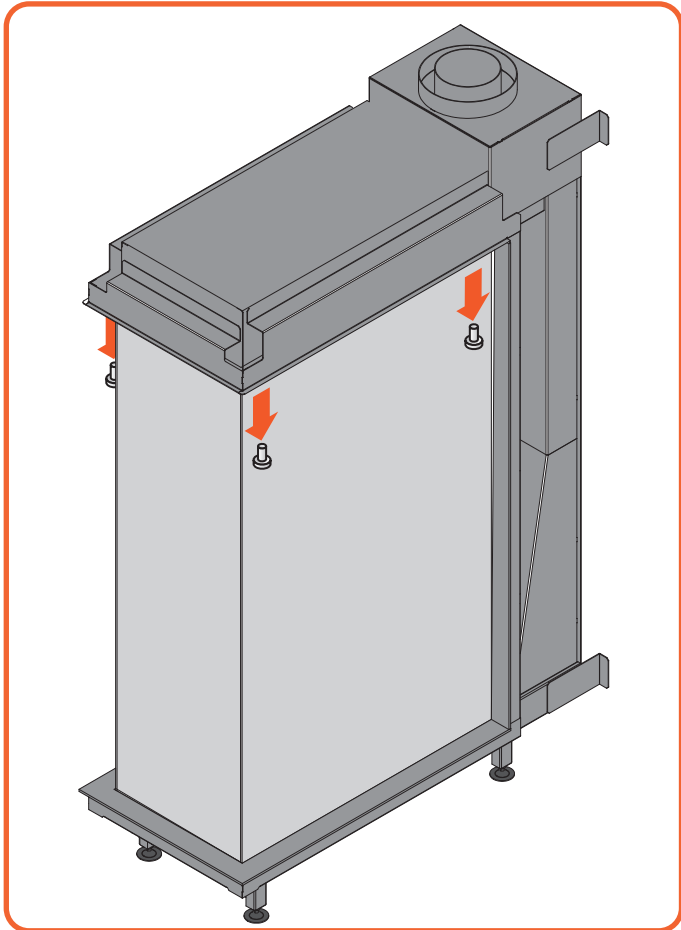
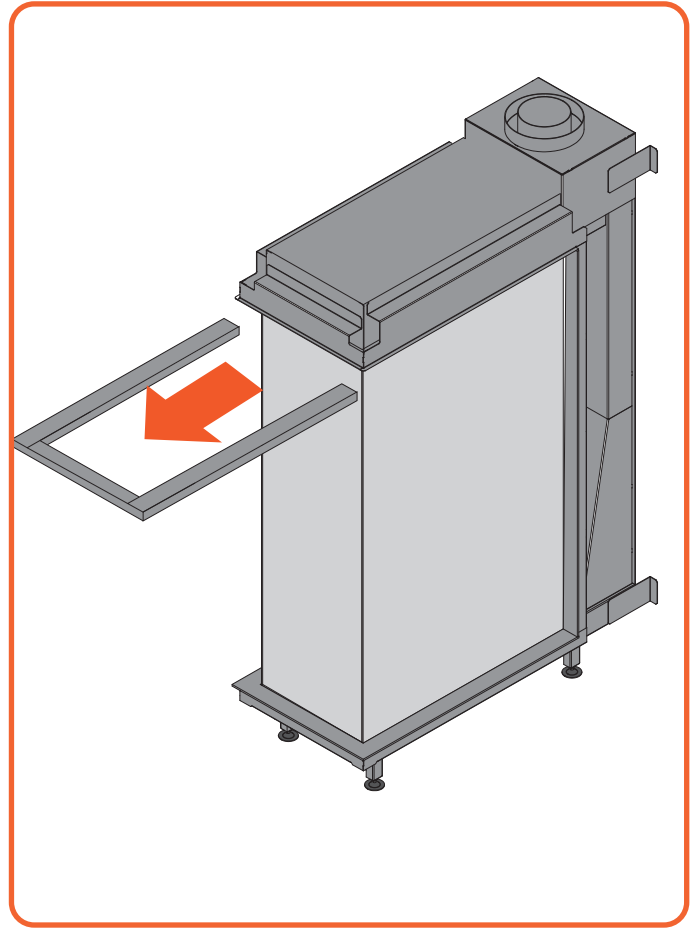

Figure 9.2 | Unscrew top trim
Figure 9.3 | Remove top trim
- Unscrew the top trim and remove it, See Figure 9.2 & Figure 9.3.